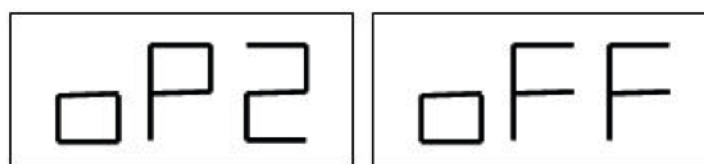

Fig. F7.2 Disabling the memory of operator 2. The memory of operator 1 is restored.
4. When operator 2 has finished his task on the balancing machine, operator 1 presses [F + P6] and thus restores all settings used by the latter. The LED located next to the button will turn off to indicate that operator 1 is enabled. The message shown in figure F7.2 will be displayed for one second.